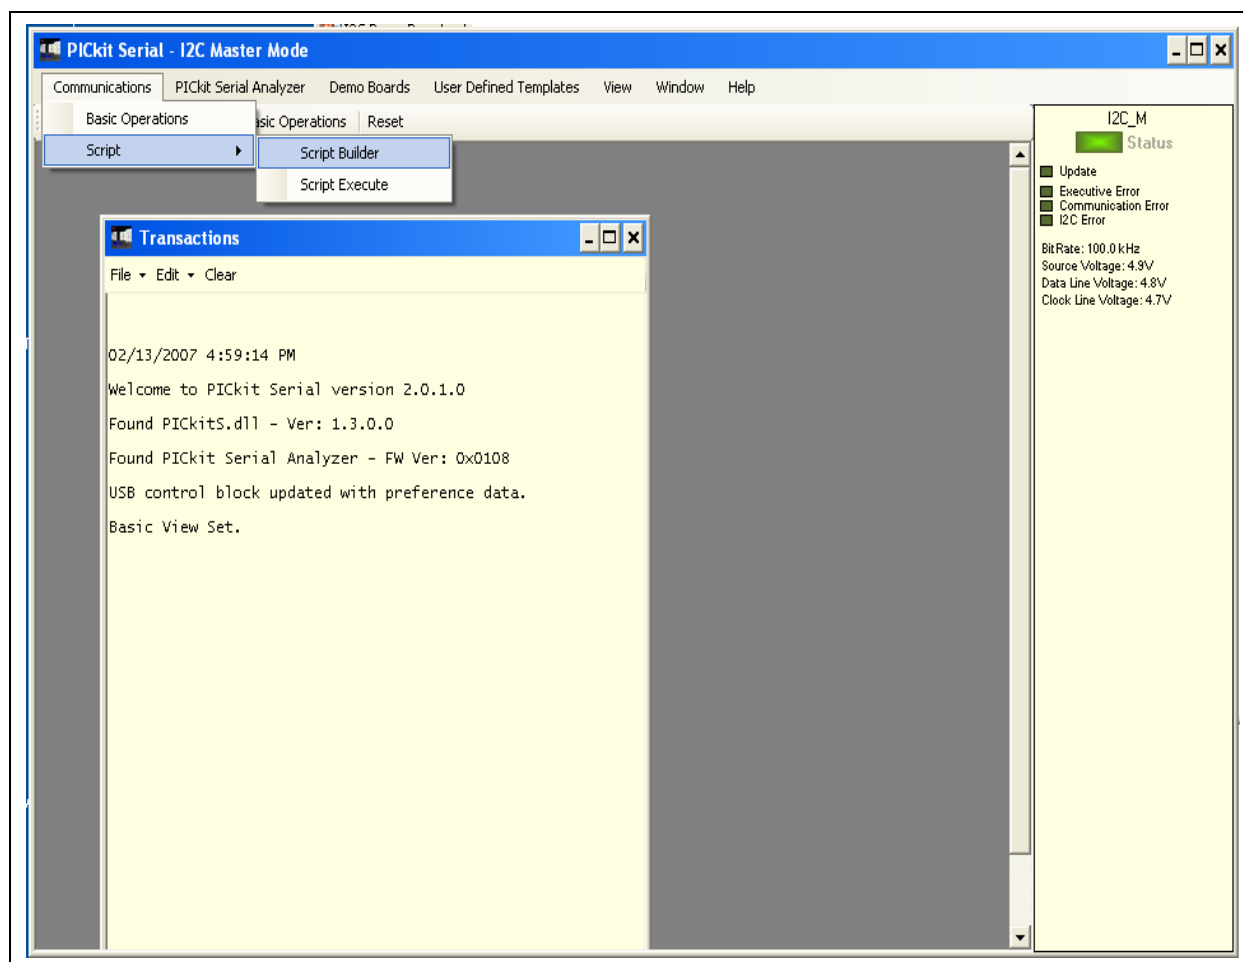

FIGURE 1-9: Creating a Script File with Script Builder.
- In the PICkit Serial Analyzer window, select from the menu Communications> Script>Script Builder (Figure 1-9).